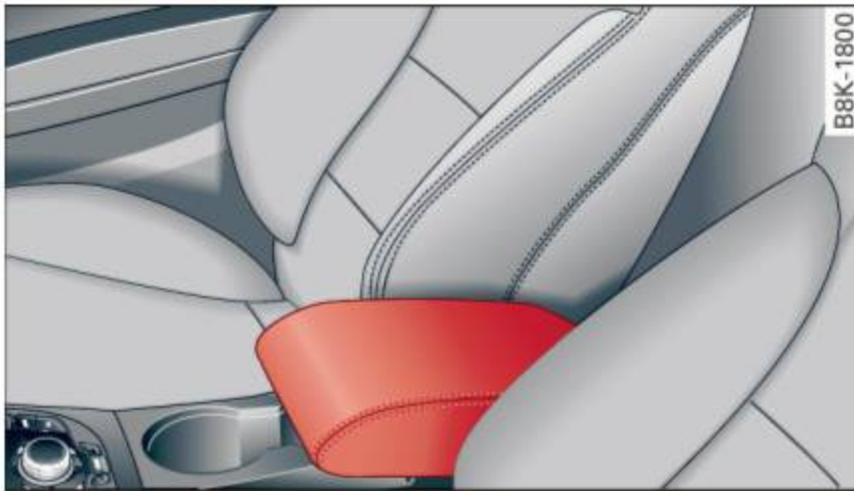

Fig. 55 Armrest between the driver's/front passenger's seats.
- ▶ To adjust the angle, raise the armrest from the starting position ⇒ *fig. 55* detent by detent.